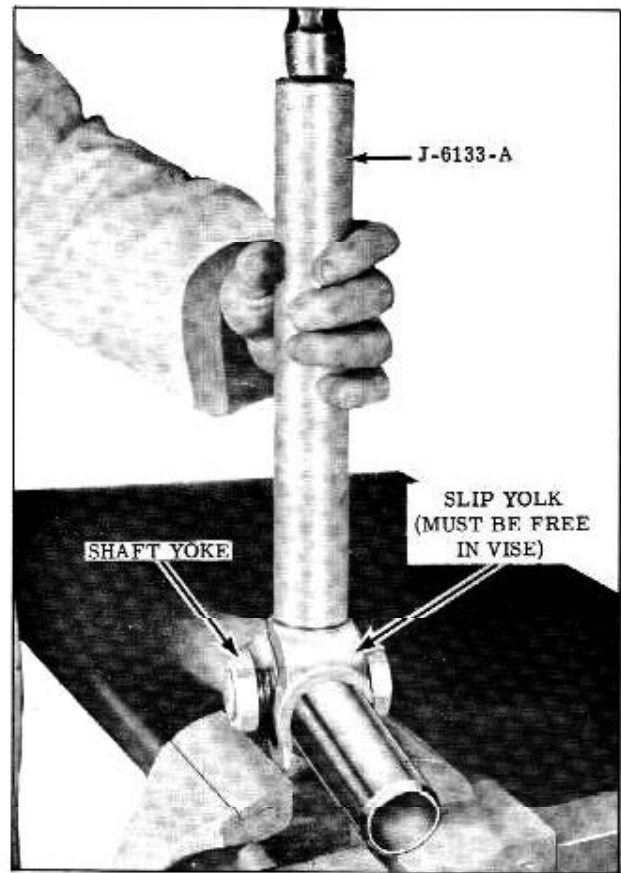

Fig. 6-3 Partial Bearing Removal (Saginaw)
3. Apply force on yoke around bearing. (Fig. 6-3) This will drive the slip yoke down causing spider to force bearing partially out of the yoke.